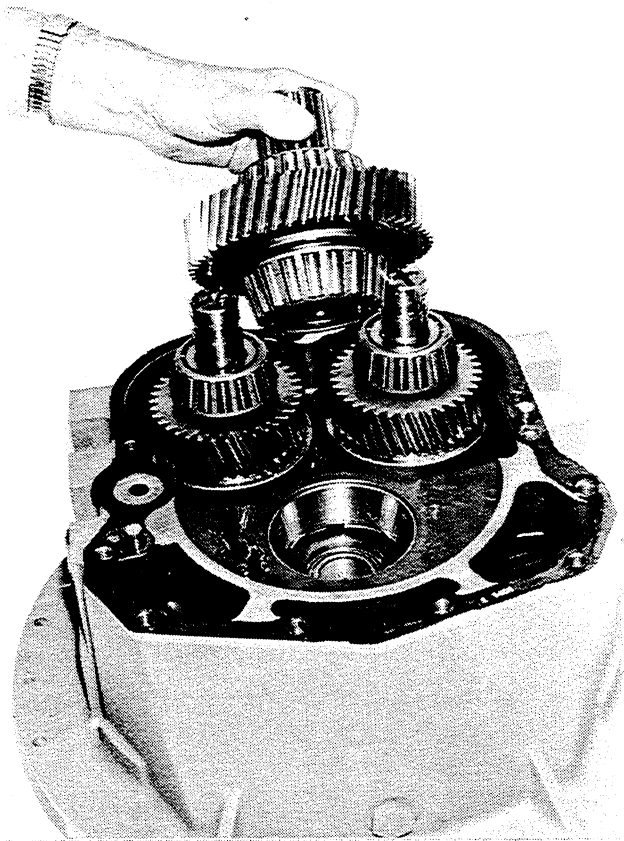

Figure 6-9. Removing or Installing Output Shaft and Gear Assembly.
18. Remove the output shaft and gear assembly. See Figure 6-9.